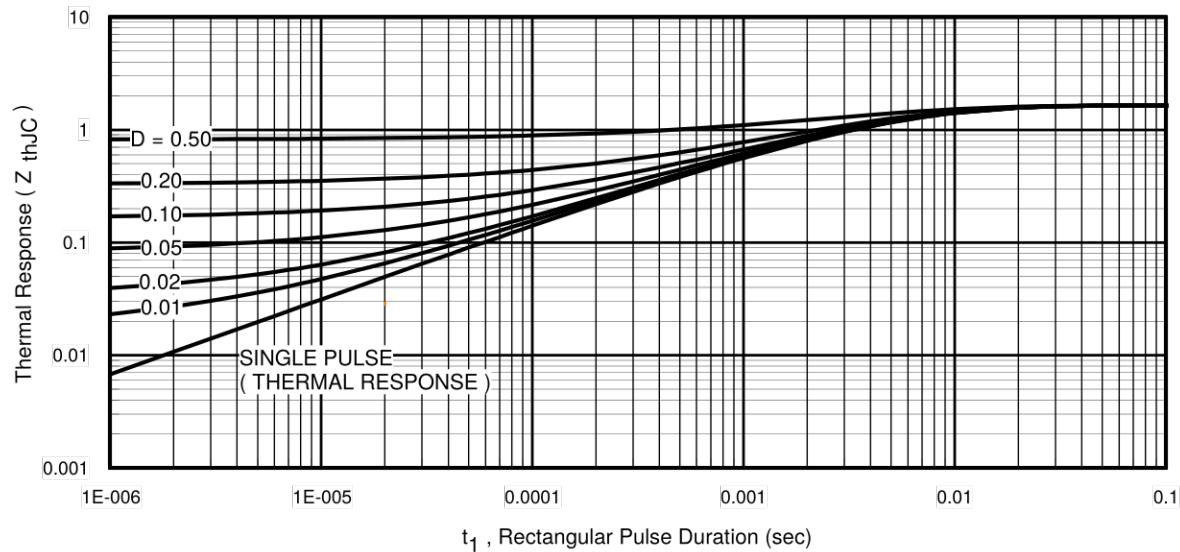
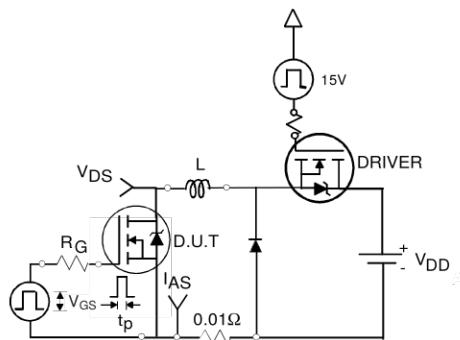

Fig 11. Maximum Effective Transient Thermal Impedance, Junction-to-Case
Fig 12a. Unclamped Inductive Test Circuit
3. Equation below based on circuit and waveforms shown in Figures 12a, 12b.
$Z_{thJC}(D, t_{av})$ = Transient thermal resistance, see figure 11)
- ① Repetitive rating; pulse width limited by max. junction temperature. (See fig. 11).
- ② Limited by $T_{J\max}$, starting $T_J = 25^\circ\text{C}$, $L = 0.46\text{mH}$ $R_G = 25\Omega$, $I_{AS} = 20\text{A}$, $V_{GS} = 10\text{V}$. Part not recommended for use above this value.
- ③ Pulse width $\leq 1.0\text{ms}$; duty cycle $\leq 2\%$.
- ④ $C_{oss\ eff}$ is a fixed capacitance that gives the same charging time as C_{oss} while V_{DS} is rising from 0 to 80% V_{DSS} .
- ⑤ Limited by $T_{J\max}$, see Fig.12a, 12b, 15, 16 for typical repetitive avalanche performance.
- ⑥ This value determined from sample failure population. 100% tested to this value in production.
- ⑦ This is only applied to TO-220AB package.
- ⑧ This is applied to D²Pak, when mounted on 1" square PCB (FR-4 or G-10 Material). For recommended footprint and soldering techniques refer to application note #AN-994.